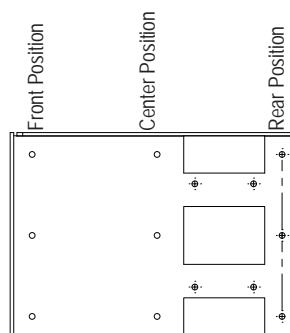

Figure 3
Step 3. Place ear bracket ❷ on right and left side of main panel ❶. You can align your main panel ❶ to Front Position, Center Position or Rear Position screw holes on ear brackets (Figure 3) depends on your application need. Rear Position is the standard mounting position.